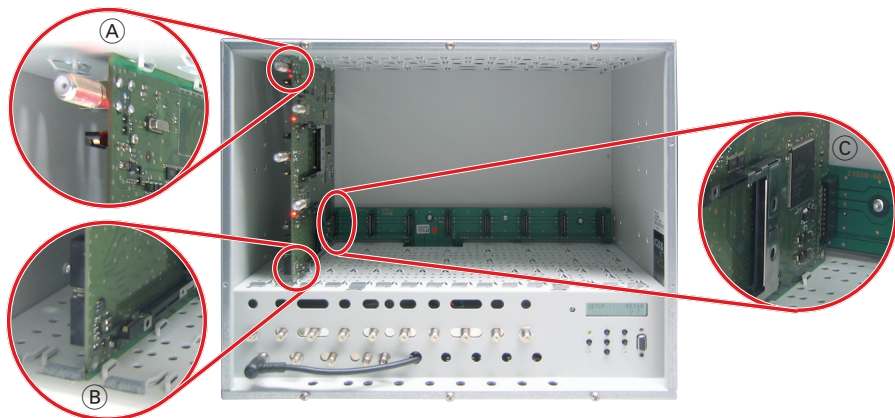

Fig.3
- Insert the digital module in grooves (A) and (B) of an open slot left to the associated modulator module and gently slide it into the head-end station until it makes contact with the board on the rear wall (fig. 3).